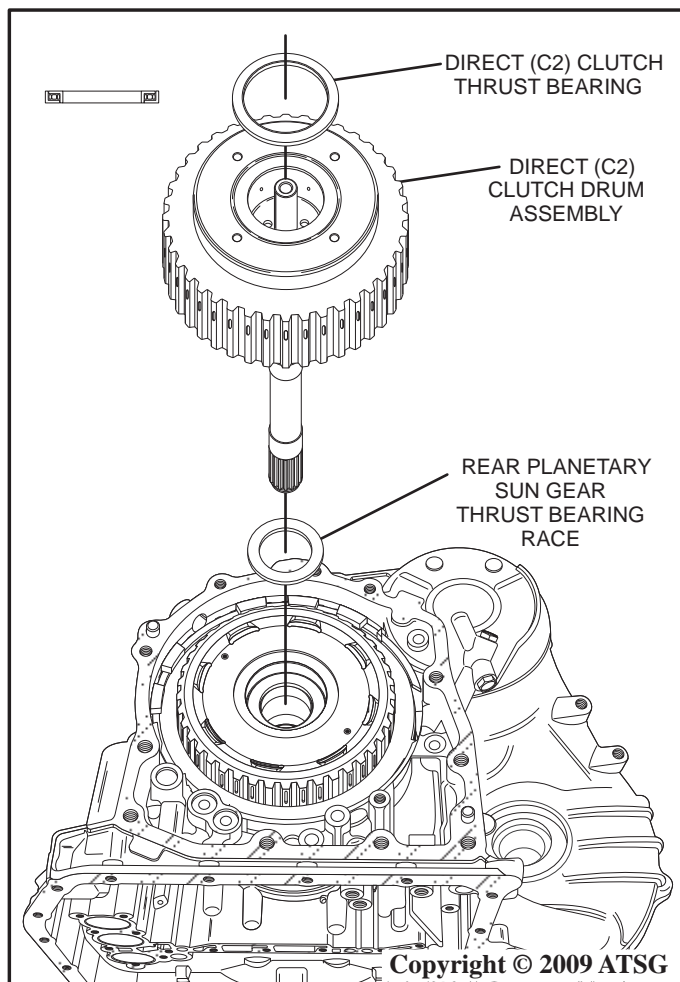

Figure 169
46. Coat the rear planetary sun gear thrust bearing race with a small amount of Trans-Jel® and install it into the direct (C2) clutch drum assembly as shown in Figure 169.
47. Install the direct (C2) clutch drum assembly into the case with a twisting motion so the clutches in the drum spline onto the rear planetary sun gear assembly as shown in Figure 169.
48. Coat the direct (C2) clutch thrust bearing with a small amount of Trans-Jel® and install onto the drum as shown in Figure 169.